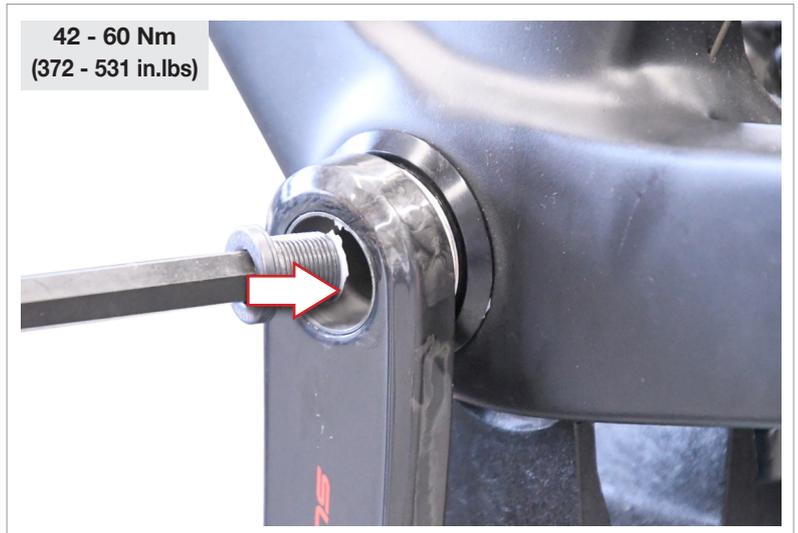

Fig.7
• Use one hand to hold the left-hand hand crank in the correct position, tighten manually the fastening screw (Fig. 7) until it the semiaxles engage, **THEN APPLY A TORQUE WRENCH** (to the 10 mm hexagonal insert) and tighten to a torque of **42 Nm - 60 Nm (372 in.lbs - 531 in.lbs)** (Fig. 7).